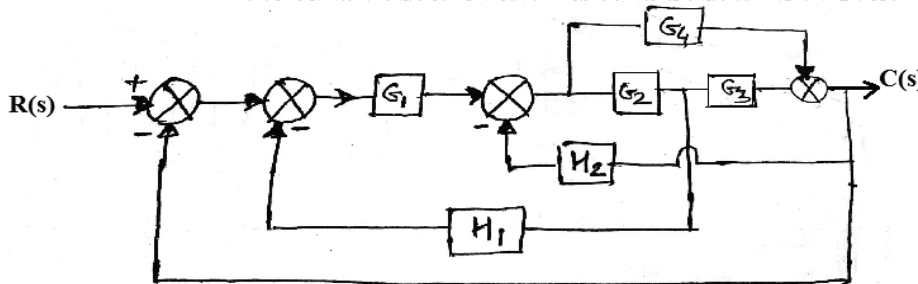

Fig.1 Block Diagram
- Q.2 a) Obtain overall T.F.  $\frac{C(S)}{R(S)}$  for the system shown in fig.1 07